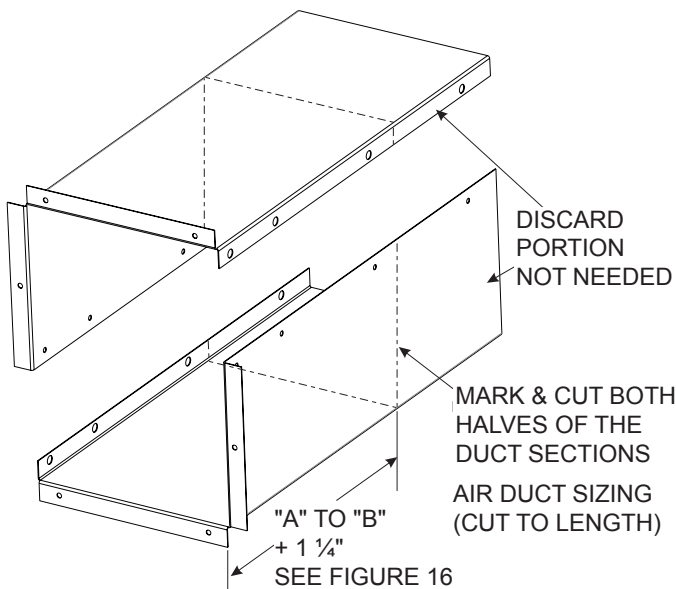

Figure 17
21. Add 1 1/4" to the dimension taken in step 20, then using metal snips, cut both halves of the Air Duct to length. **See Figure 17,** and discard the trimmed off ends.